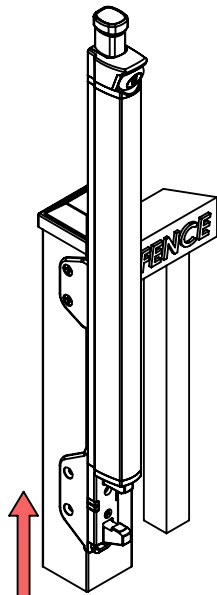
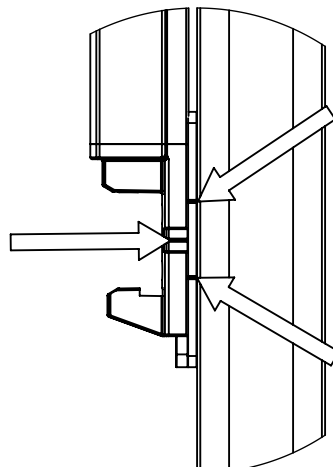
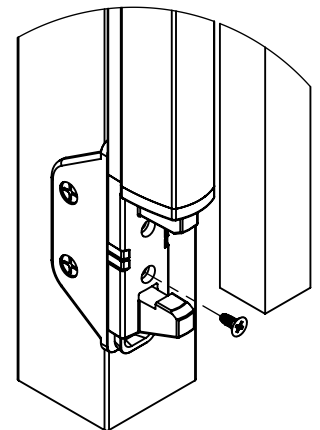

FIG. 4
FIG. 5
FIG. 6
2. Temporarily attach the Lower Bracket by holding it against the post and sliding it up into the Latch Body (Fig. 4). Center the mark on the Latch Body between the two marks on the Lower Bracket (Fig. 5). With the Latch at the PROPER HEIGHT, mark the Lower Bracket location on the Post.
3. Remove Latch Body and attach the Lower Bracket with the (4) supplied Flat Head mounting screws.
5. Position at proper height and secure with (1) #8 FlatHead Screw (Fig 6).